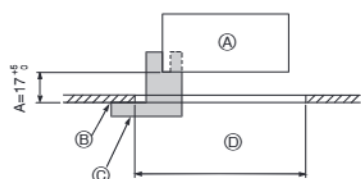
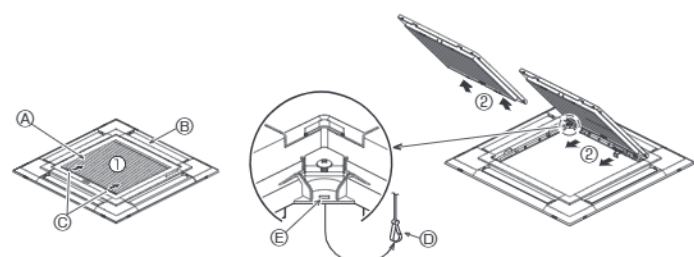
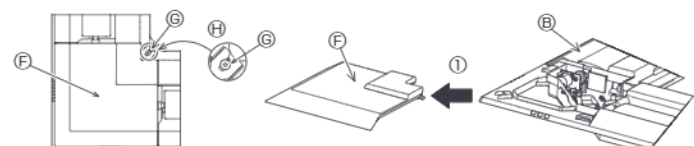

Fig. 9-2
Fig. 9-3
Fig. 9-4
①	Grille	1	950 × 950 (mm)
②	Installation gauge	1	(Divided into 4 parts)
③	Screw (4 × 16)	1	For PLP-6EAE, PLP-6EAL, PLP-6EALME
④	i-see Sensor corner panel	1	For PLP-6EAE, PLP-6EAL, PLP-6EALME
⑤	Wireless remote controller	1	For PLP-6EALM, PLP-6EALME
⑥	Remote controller holder	1	Included when equipped with the wireless remote controller.
⑦	LR6 AA batteries	2	Included when equipped with the wireless remote controller.
⑧	3.5 × 16 tapping screws	2	Included when equipped with the wireless remote controller.
9.2. Preparing to attach the grille (Fig. 9-2)
- With the gauge ② supplied with this kit, adjust and check the positioning of the main unit relative to the ceiling surface. If the main unit is not properly positioned relative to the ceiling surface, it may allow air leaks or cause condensation to collect.
- C Installation gauge ② (inserted into the main unit)
9.2.1. Removing the intake grille (Fig. 9-3)
- Slide the levers in the direction indicated by the arrows ① to open the intake grille.
- With the intake grille in the "open" position, remove the hinge of the intake grille from the grille as indicated by the arrows ②.
9.2.2. Removing the corner panel (Fig. 9-4)
- Loose the 4 screws on the corner. Slide the corner panel in the direction of the arrow ① in the figure and remove the corner panel.
[Fig. 9-3] [Fig. 9-4]